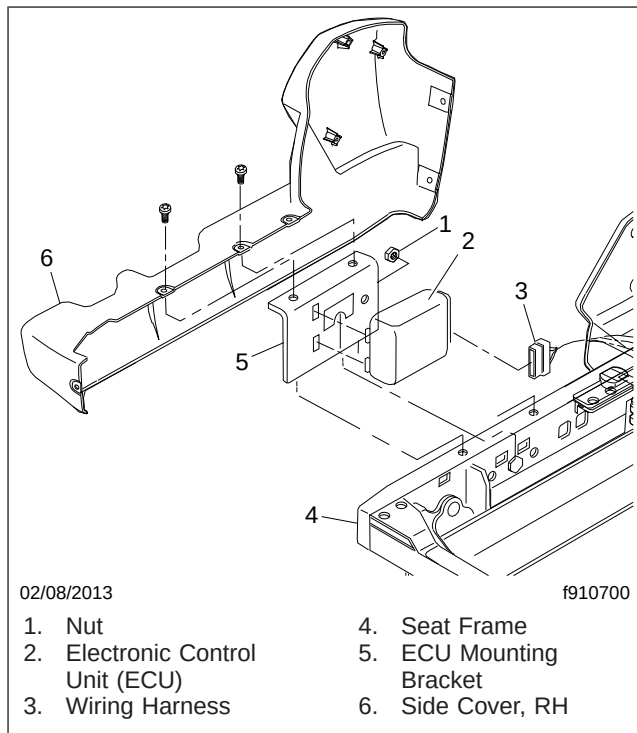

Fig. 1, Electronic Control Unit Installation
2. Remove the screws that attach the RH side cover to the seat frame. Remove the side cover. See Fig. 1.